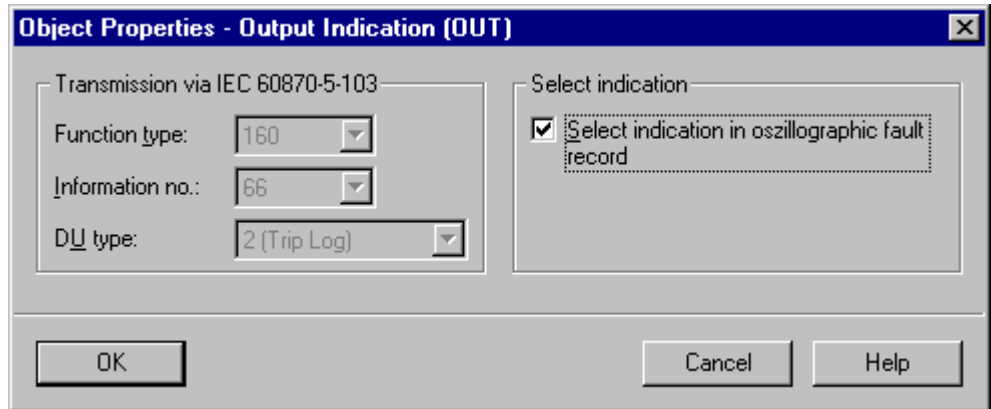
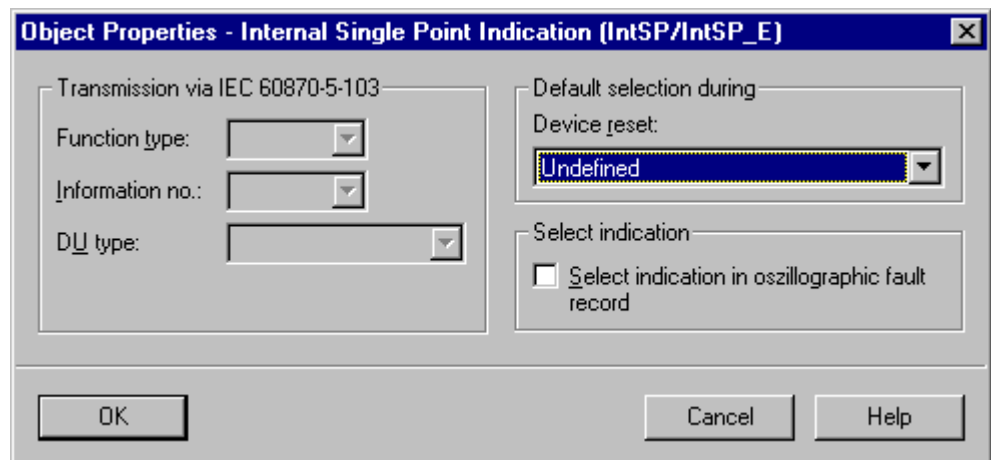

Figure 5-14 Information Properties Example for the Information Type “Output Indication” (OUT)
Figure 5-15 Information Properties Example for the Information Type “Internal Single Point Indication” (IntSP)
- For example, if the cursor is positioned on a specific output indication, the *right* mouse button is pressed, and the menu item **Properties** is selected, then a choice of whether the indication should appear in the oscillographic fault record (Figures 5-14, 5-15, and 5-16) is presented. For internal single point indications, the default status of the indication (on, off, or undefined) after device reset can be selected as well (Figure 5-15).